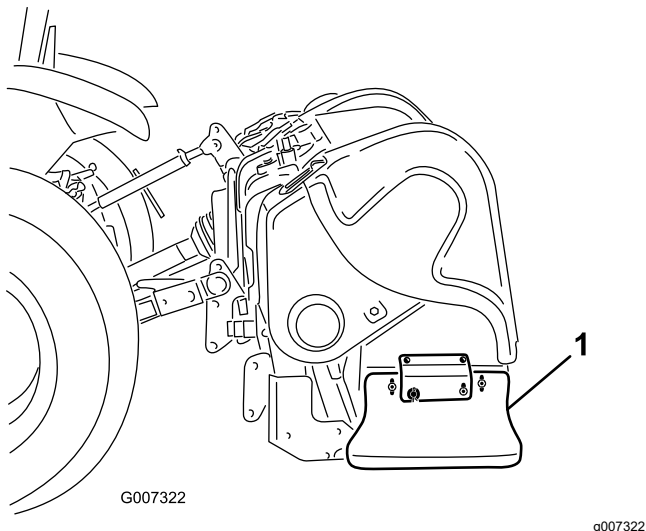

Figure 39
1. Loosen the bolts and nuts securing the side shield to frame (Figure 39).